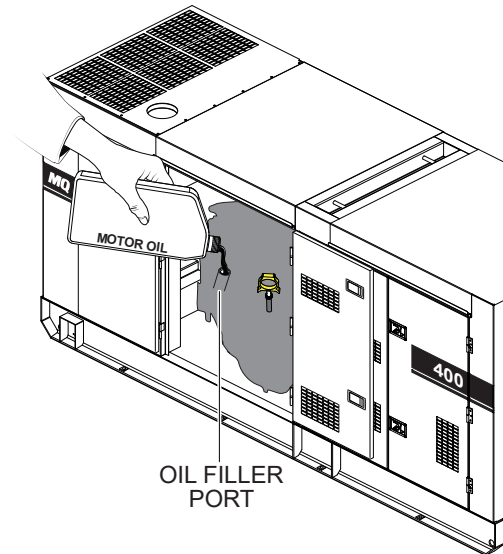

Figure 24. Engine Oil Filler Port
5. If the engine oil level is low (Figure 23C), remove the cap from the **oil filler port** (Figure 24) and fill to a safe operating level (max) as indicated by the dipstick (Figure 23A). Fill with the recommended type oil listed in Table 9. Maximum oil capacity is 15.1 gallons (57 liters).